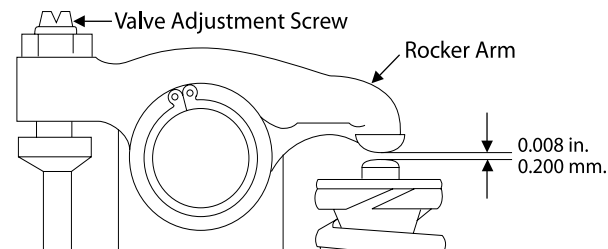

Figure 7: Valve Adjustment
3. Loosen the lock nut and adjust the clearance between the rocker arm and valve guide of both the intake and exhaust valves with the adjustment screw (Figure 7). Clearance on both intake and exhaust valves should be 0.008 in. (0.2 mm).